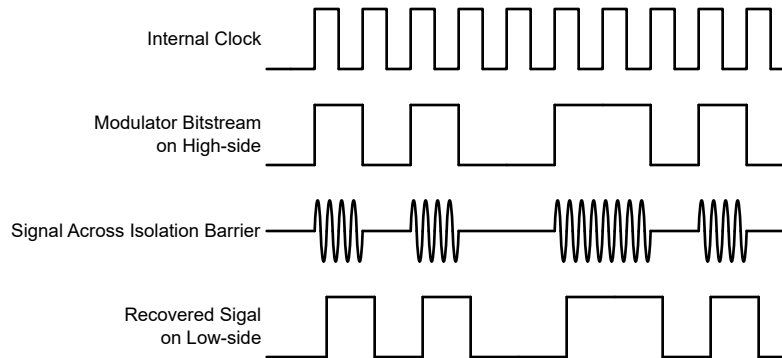

Figure 7-1. OOK-Based Modulation Scheme
The AMC0x30D-Q1 uses an on-off keying (OOK) modulation scheme, as shown in Figure 7-1, to transmit the modulator output bitstream across the SiO₂-based isolation barrier. The transmit driver (TX) as illustrated in the Functional Block Diagram transmits an internally generated, high-frequency carrier across the isolation barrier to represent a digital *one*. However, TX does not send a signal to represent a digital *zero*. The nominal frequency of the carrier used inside the AMC0x30D-Q1 is 480MHz.